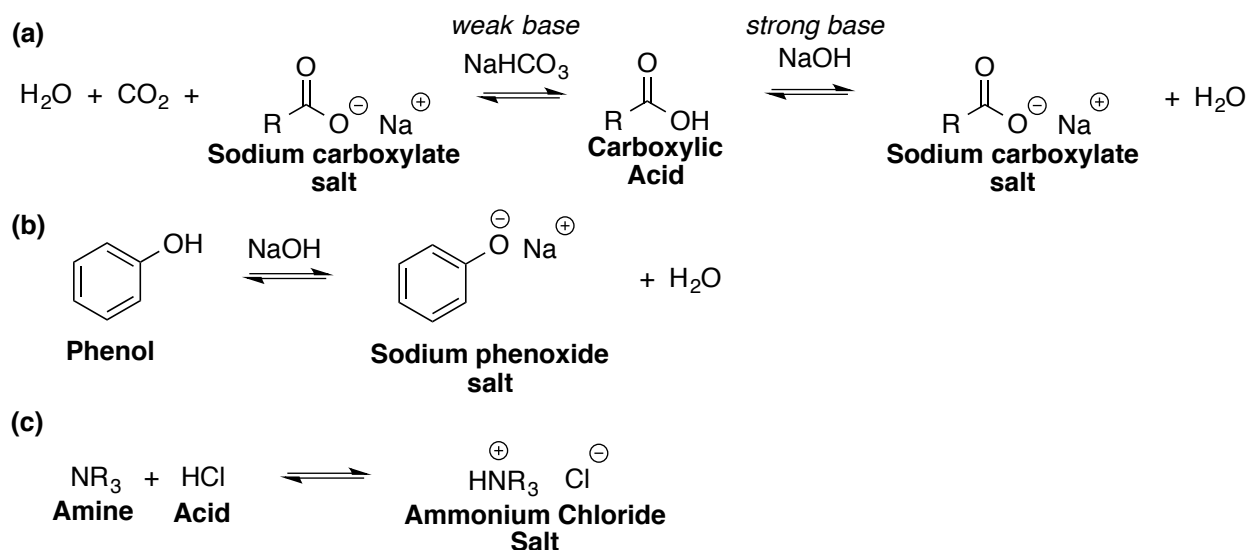

Figure 2. Reactions between (a) carboxylic acids with a weak and strong base; (b) phenols with a strong base; and (c) amines with a strong acid.
2. Which would be more effective in separating aspirin from acetaminophen: NaHCO_3 or NaOH ? Include a chemical reaction as part of your answer (hint: see **Figure 2**). Indicate whether each of the products of the acid-base reaction would be in the aqueous or organic layers.